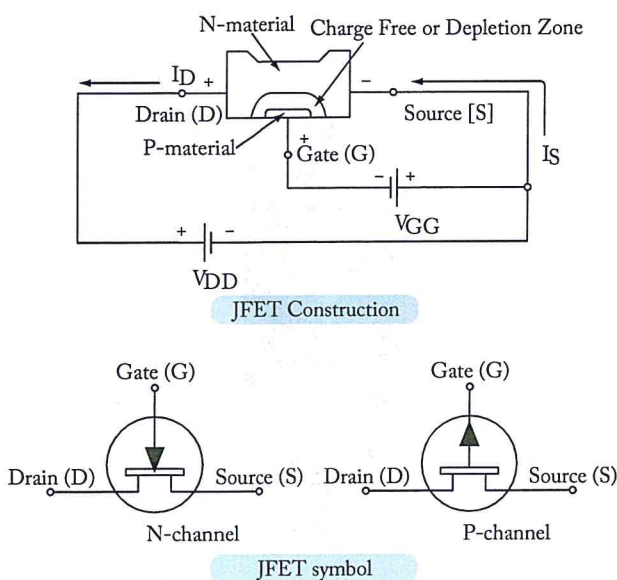

Figure 1-58. General construction and schematic symbol of the MOSFET.
Figure 1-58 shows the basic construction of the JFET and the schematic symbol. In this figure, it can be seen that the drain (D) and source (S) are connected to an N-type material, and the gate (G) is connected to the P-type material. With gate voltage V_{GG} set to 0 volts and drain voltage V_{DD} set to some positive voltage, a current will flow between the source and the drain, through a narrow band of N-material. If then, V_{GG} is adjusted to some negative voltage, the PN junction will be reverse biased, and a depletion zone (no charge carriers) will be established at the PN junction. By reducing the region